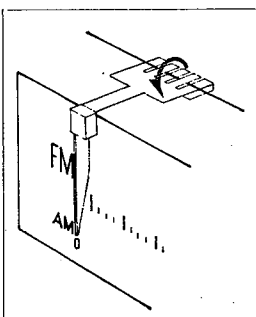

Fig. 4-3
- 2) Set the dial pointer to "0" on dial scale and tighten the dial pointer ass'y. (See Fig. 4-3)